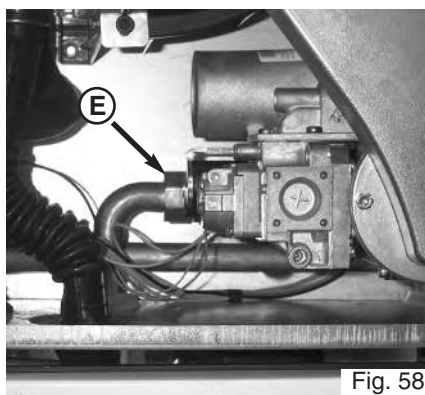

Fig. 58
7. Unscrew the gas valve nut **E** (Fig. 58);